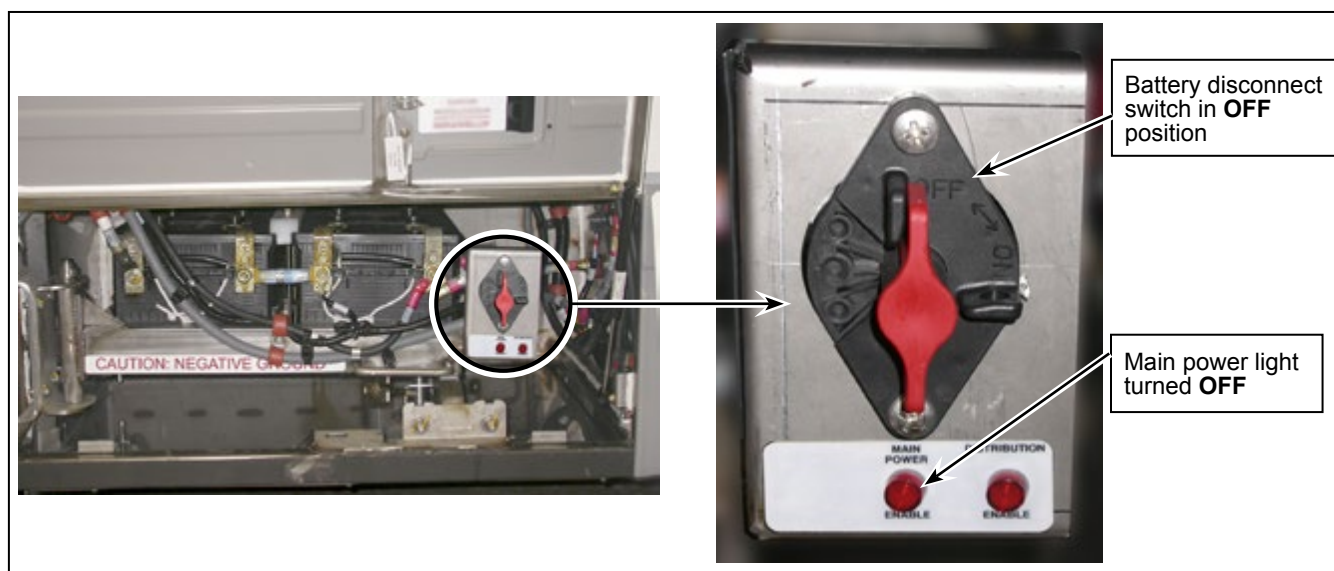

Figure 1 - Typical Battery Compartment and Disconnect Switch
- 1.2. Turn the battery disconnect switch to the **OFF** position. The main power light should turn **OFF**. See Figure 1.